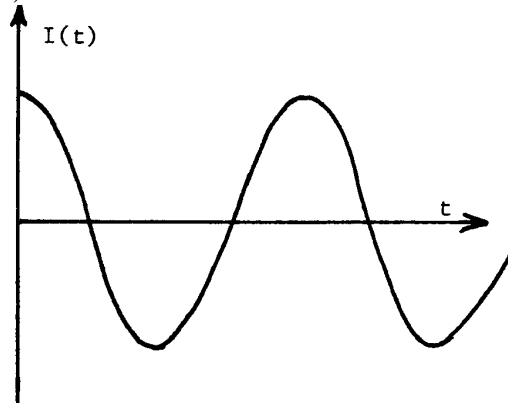

Figure 3. Alternating Current
If the current varies with time as $I(t) = I_0 \cos \omega t$ as shown in Figure 3, it is called alternating current (AC).